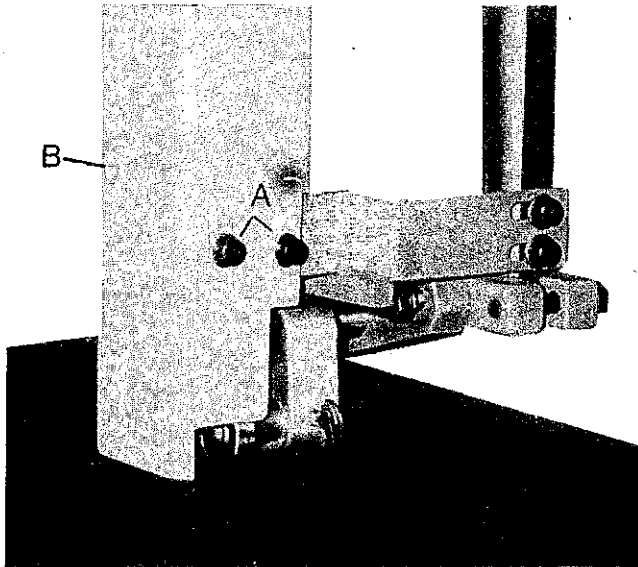

FIG 6
3. Loosen cap head bolts "A", FIG.6. and remove sawguard "B".